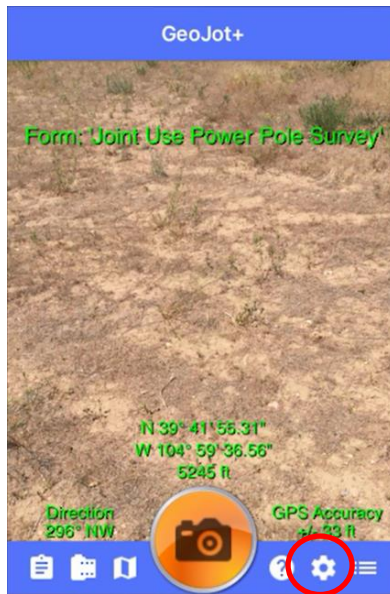

Figure 5
5. Start GeoJot and tap the **Settings** icon (Figure 5)